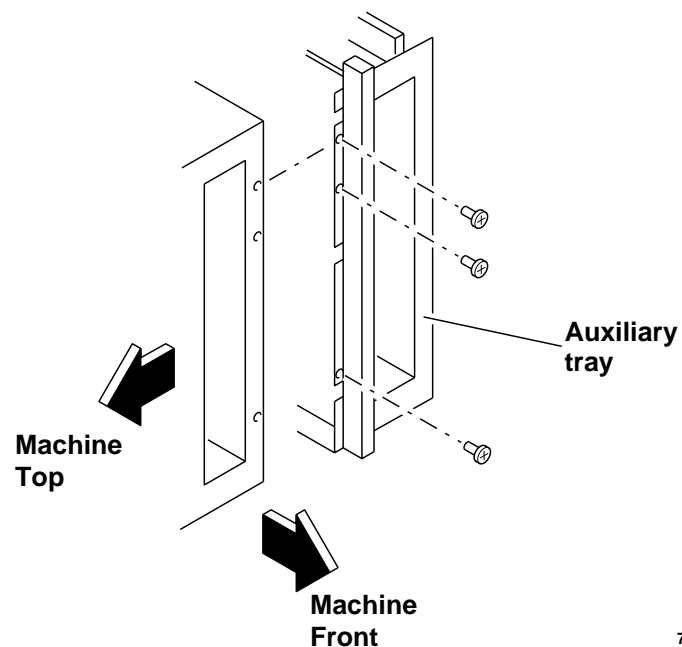

Figure 2. Auxiliary tray installation, front screws
6. Join the auxiliary tray assembly to the terminal. Secure the front with three screws, and tighten the three rear screws (Figure 2).